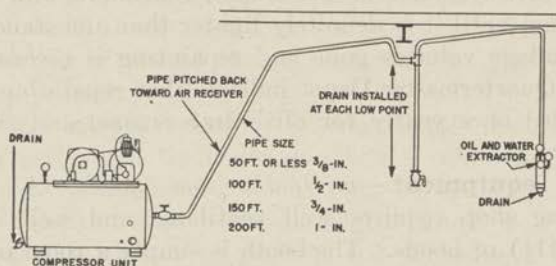
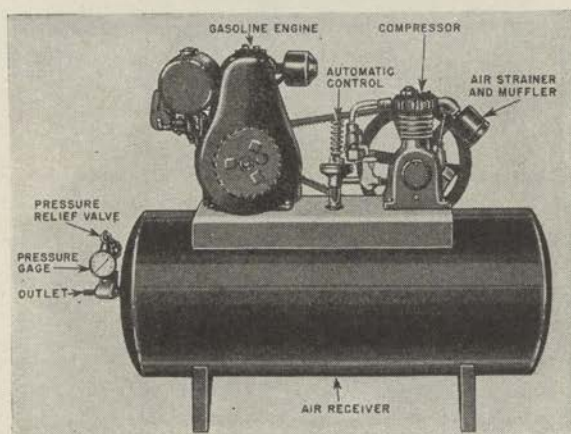

FIGURE 112.—How air line should be installed.
FIGURE 113.—Portable, gasoline-engine-driven compressor.
used; otherwise, a smaller compressor, equipped with a storage tank and operated by an electric motor is installed in the paint shop (fig. 112). For field operations, a portable, gasoline-engine-driven outfit (fig. 113) is used. If a vehicle having air brakes is available, the spray gun may be connected to the tire inflation valve of the air brake system.
d. Oil and water extractor.—(1) An oil and water extractor (figs. 112 and 114) sometimes called an air transformer, is connected at the end of the pipe from the compressor. This device has three functions: first, it separates oil, dirt, and water from the compressed air before it enters the spray gun, which is essential since clean, dry air is necessary for a good paint job; second, the extractor reduces the line pressure to any desired working pressure for the spray gun; third, it provides hose connections for one or more spray guns. The extractor is usually provided with a gage that registers the line pressure and always with one or more gages that indicate the working pressure. If the extractor has only one regulator, two spray guns may be used simultaneously,
(3) The air line should slope back toward the compressor so that condensed moisture will flow back into the air receiver where it can be removed by opening the drain cock. Every low point on an air line acts as a water trap and each such point where the air line dips under a joist should be fitted with a drain cock (fig. 112).